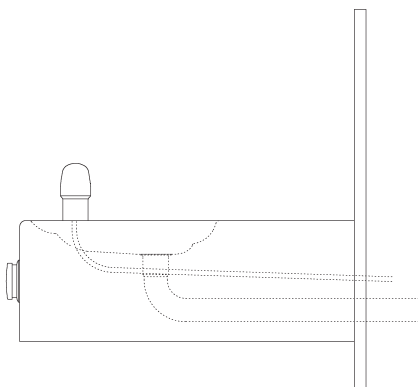

FIG. 14
7. Connect water line from fountain bubbler into freeze resistant box. The connection to the box uses a quick connect water fitting. Position the water line, in the fountain, to drain back into interior mounted box. Any water left standing, in the exterior line, can freeze. See Fig. 14.